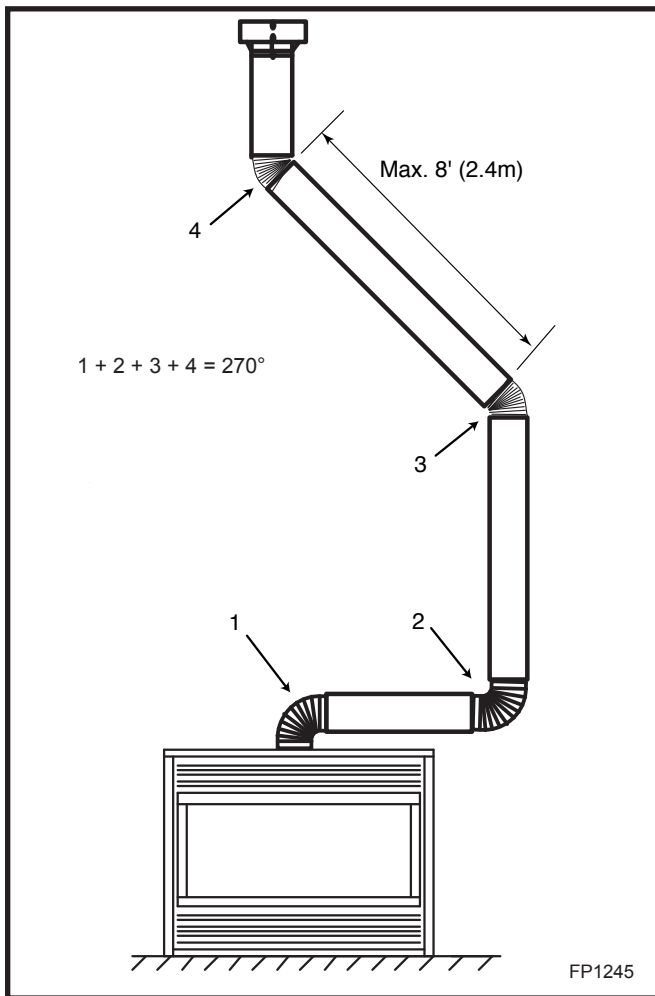

Fig. 51 Typical offset application.
- Two sets of 45° elbows offsets within these vertical installations. From 0 to a maximum of 8' (2.m) of vent pipe can be used between elbows. (Fig. 51)